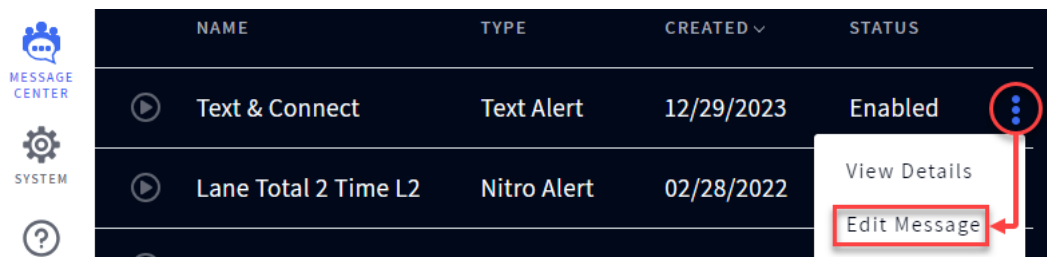

Fig. 8.9
- Tap the More icon and select Edit Message from the drop-down list (Fig. 8.9).